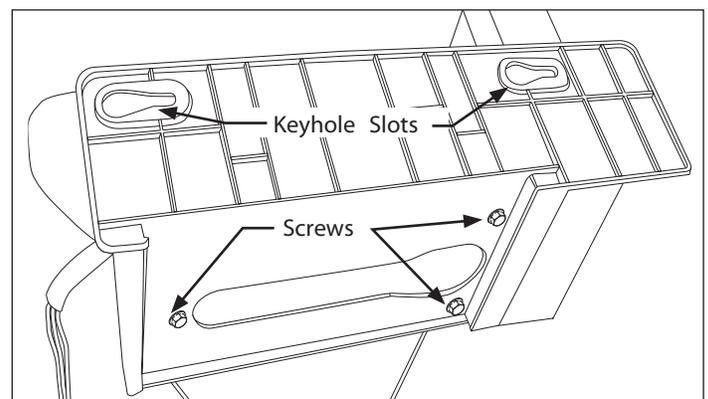

Figure 6-45.
8. The mounting plate is removed from the ice maker by extracting the three screws from the bottom of the assembly. (See Figure 6-45)